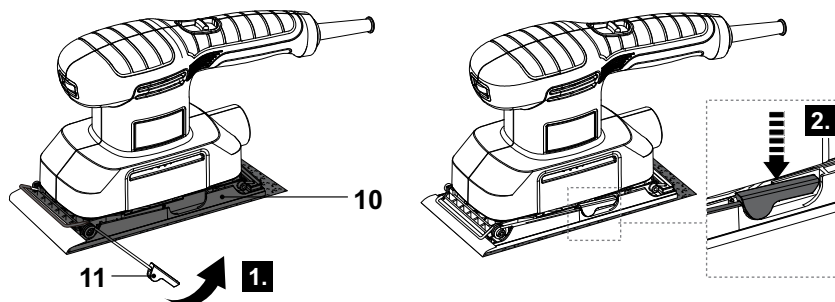

Fig. 6
- > Pull the clamp lever (11) upwards along the base plate (10) and then press it down to engage it (Fig. 6).